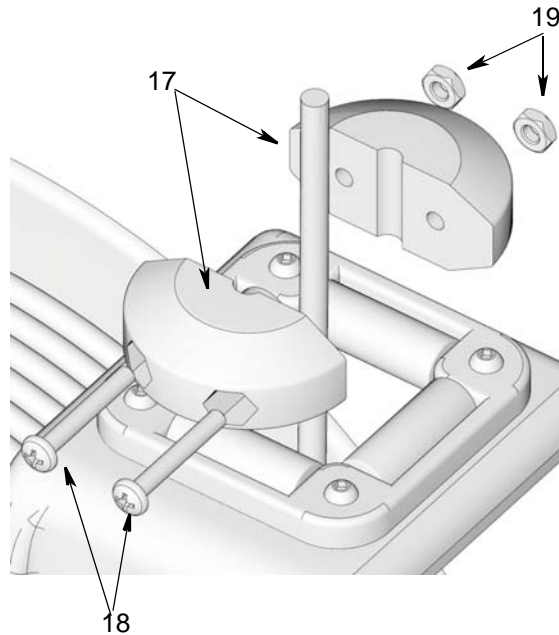

FIG. 4
5. Remove ball stop from accessory cord end and put all the parts in a safe place to reinstall on the new cord later (FIG. 4).
- a. Loosen and remove screws (18) and nuts (19).
- b. Separate two ball stop components (17) to remove from end of accessory cord.
7. While supporting the spool, loosen 34 mm hex nut (4) (FIG. 4).
- Position the two ball stop (17) halves around cord. Insert screws (18) through ball stop and hand tighten nuts (19) to hold ball stop in place. (FIG. 4, page 12)